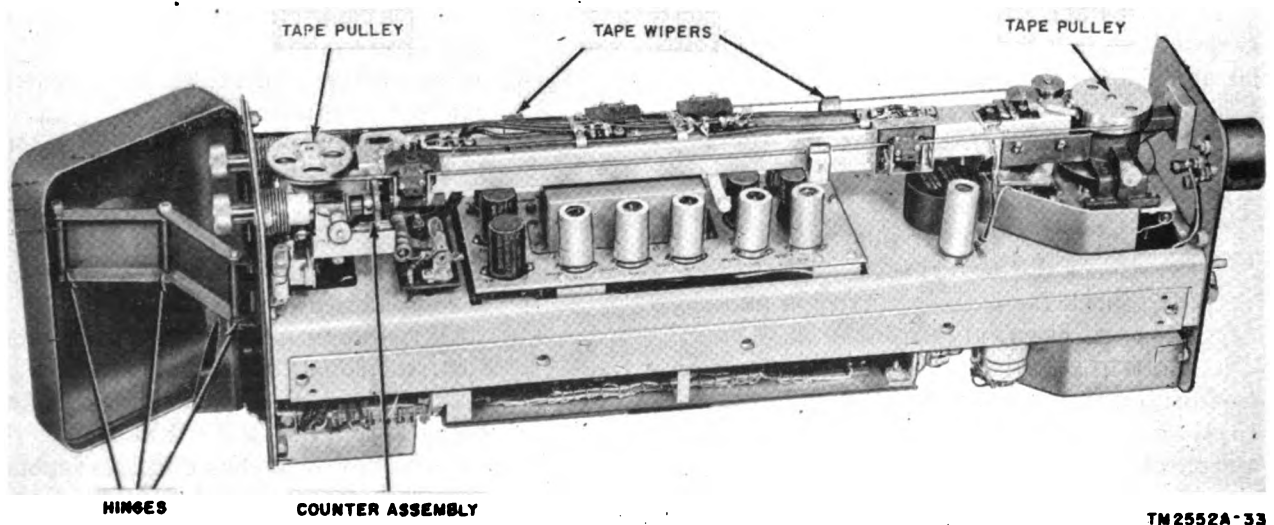

Figure 32. Location of lubricating points.
f. LUBRICATING DETAILS. Refer to figure 32 for location of the following parts which require lubrication:
- (1) *Hinges.* Apply 2 drops of oil (PL-Special) along each hinge. Remove excess oil with a clean cloth.
- (2) *Counter assemblies.* Apply 1 drop of oil (PL-Special) to the pinion shaft at the point indicated.
- (3) *Magnetic tape and pole pieces.* Remove the tape (par. 60). Wipe the accumulation of dirt from the tape and the recorder and reproducer pole pieces with solvent (SD) and a clean, lint-